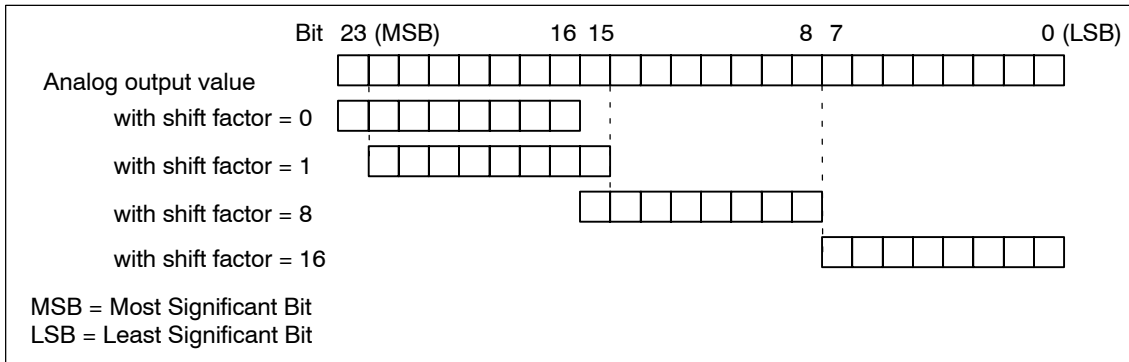

Fig. 7-8 Shift factor for analog output of 24-bit signals
- Shift factor (refer to Figs. 7-8 and 7-9)